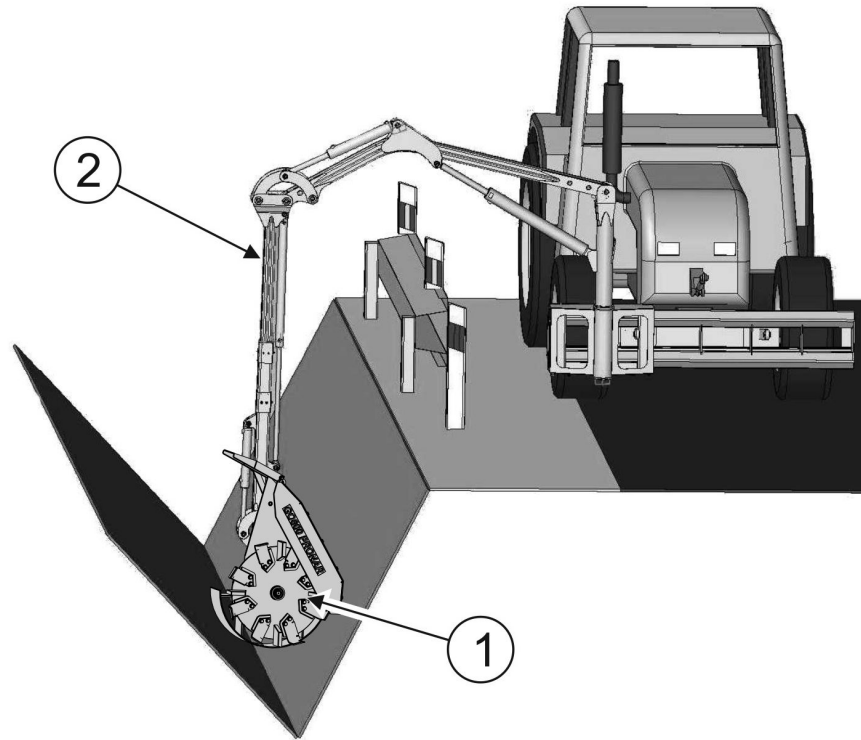

FIGURE 4.4 Set the ditch digger in working position
- Control the relevant hydraulic circuits and position the multifunction arm so as to place the ditch digger in the working area (FIGURE 4.4)